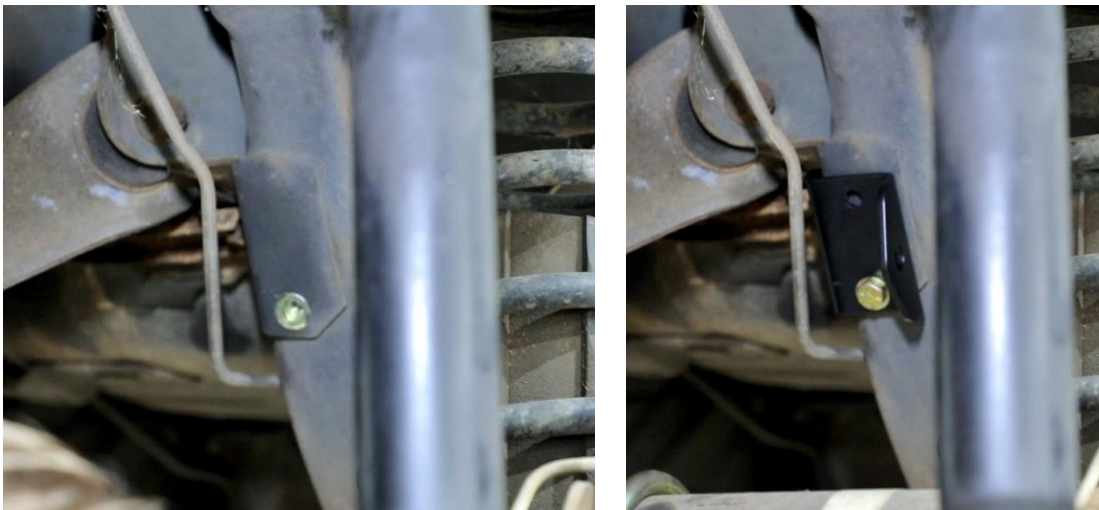

Figure 17 - Locate End Link Bracket
20. Remove the nut insert tool and place the end link bracket to the frame rail. Install one of the provided 5/16"-18 x 3/4" L hex head bolt and 5/16" washer through the lower hole in the bracket and into the nut insert. Snug the fastener while keeping the bracket up against the frame rail (Figure 17)